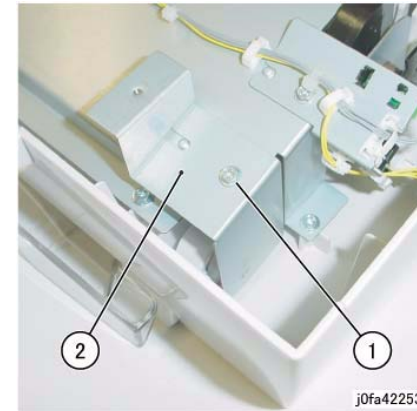

Figure 2 Removing the Bracket (j0fa42253)
6. Remove the front Bracket. (Figure 2)